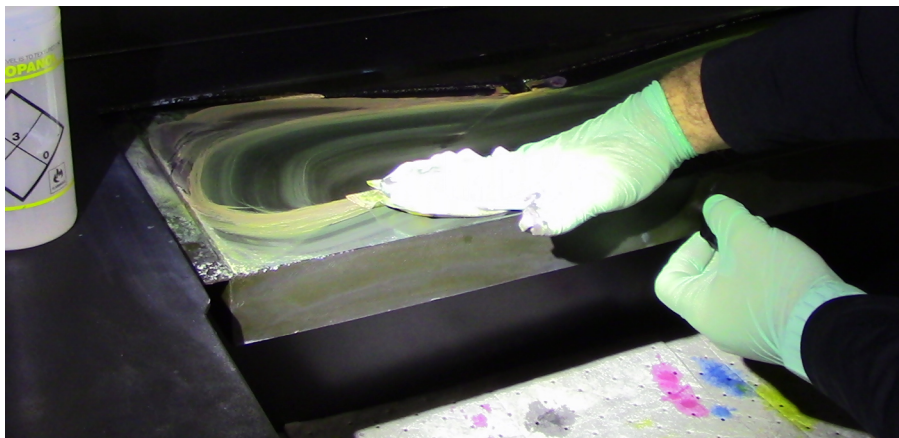

Figure 5-8 Wiping Ink Sink
3. Dampen a lint-free wipe with UV maintenance fluid and thoroughly wipe down the sink to remove the ink deposits, Figure 5-8.